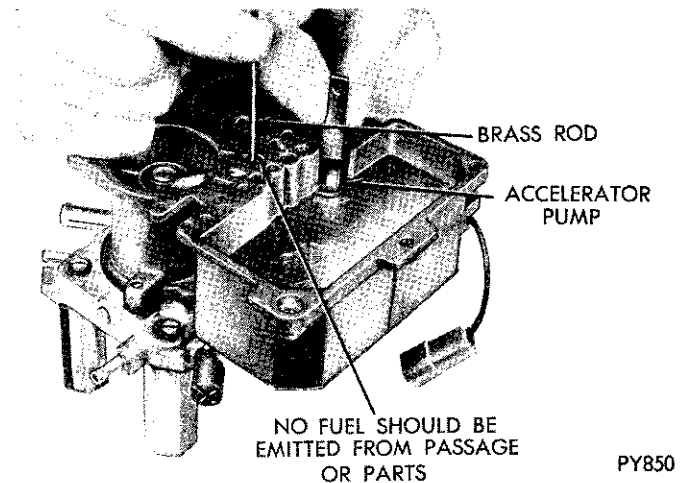

Fig. 16—Testing Accelerator Pump Discharge Check Needle
(3) Pour clean gasoline into fuel bowl, approximately 1 inch deep. Slide accelerator pump plunger into cylinder. Raise plunger and press down lightly on plunger stem to expell all air from pump passage.
(4) Using a small clean brass rod, hold discharge check needle down on its seat. Again raise plunger and press downward. No fuel should be emitted from pump discharge passage (Fig. 16).